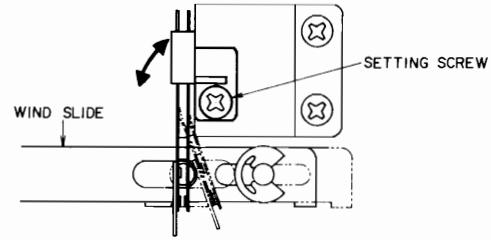

Fig. 7
6. OPERATION SWITCH POSITION ADJUSTMENT (See Fig. 7)
Loosen setting screw and move switch base in direction of arrow in Fig. 7 until when PLAYBACK, F.FWD or RWD mode is effected, the wind slide turns ON Operation Switch perfectly and fix setting screw to maintain optimum condition.